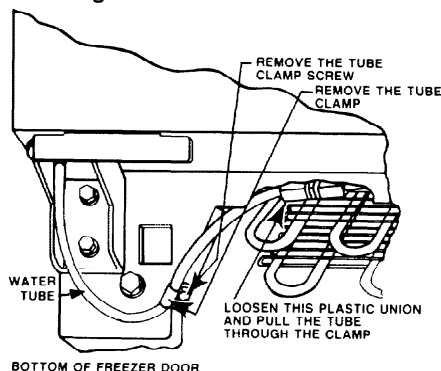

FIGURE 14
5. First remove the toe grille then disconnect freezer door bottom hinge water line by loosening the  $\frac{1}{4}$ " O.D. plastic tube union nut. See Figure 14.